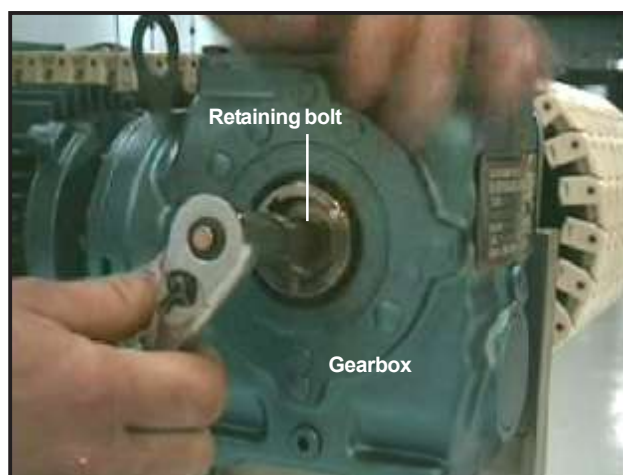

Figure 38: Install and tighten retaining bolt
- Install and tighten the retaining bolt on the end of the shaft (*Figure 38*).